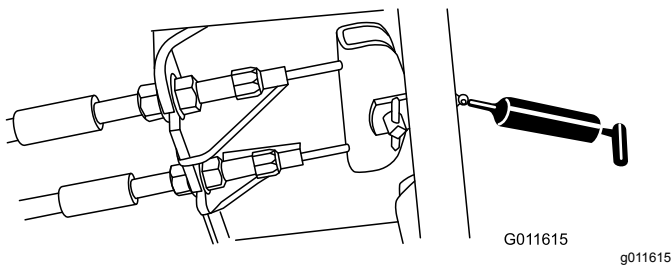

Figure 65
- Pédale de frein (1) – Figure 65